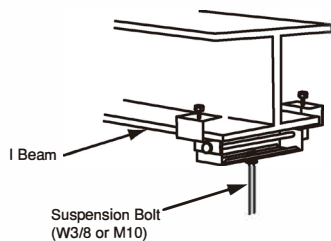

Fig. 3.3 Mounting Suspension Bolts
- (3) Check to ensure that the ceiling is horizontally level, otherwise the condensate may not drain properly, issues can occur.
- (4) Strengthen the opening parts of the false ceiling.
- (5) Mount suspension bolts, as shown in Fig. 3.3.